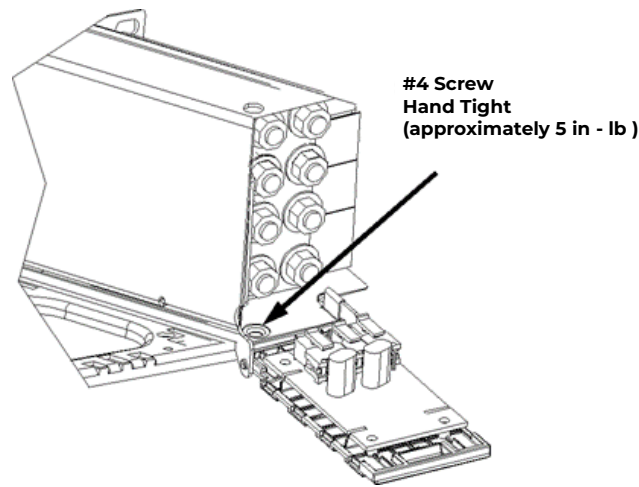

Figure 5-2: Bulk Output Module
8.	Insert one #4 Screw inside the left side of the Bulk Output Module, hand tight to approximately 5 in-lb. See Figure 5-2.